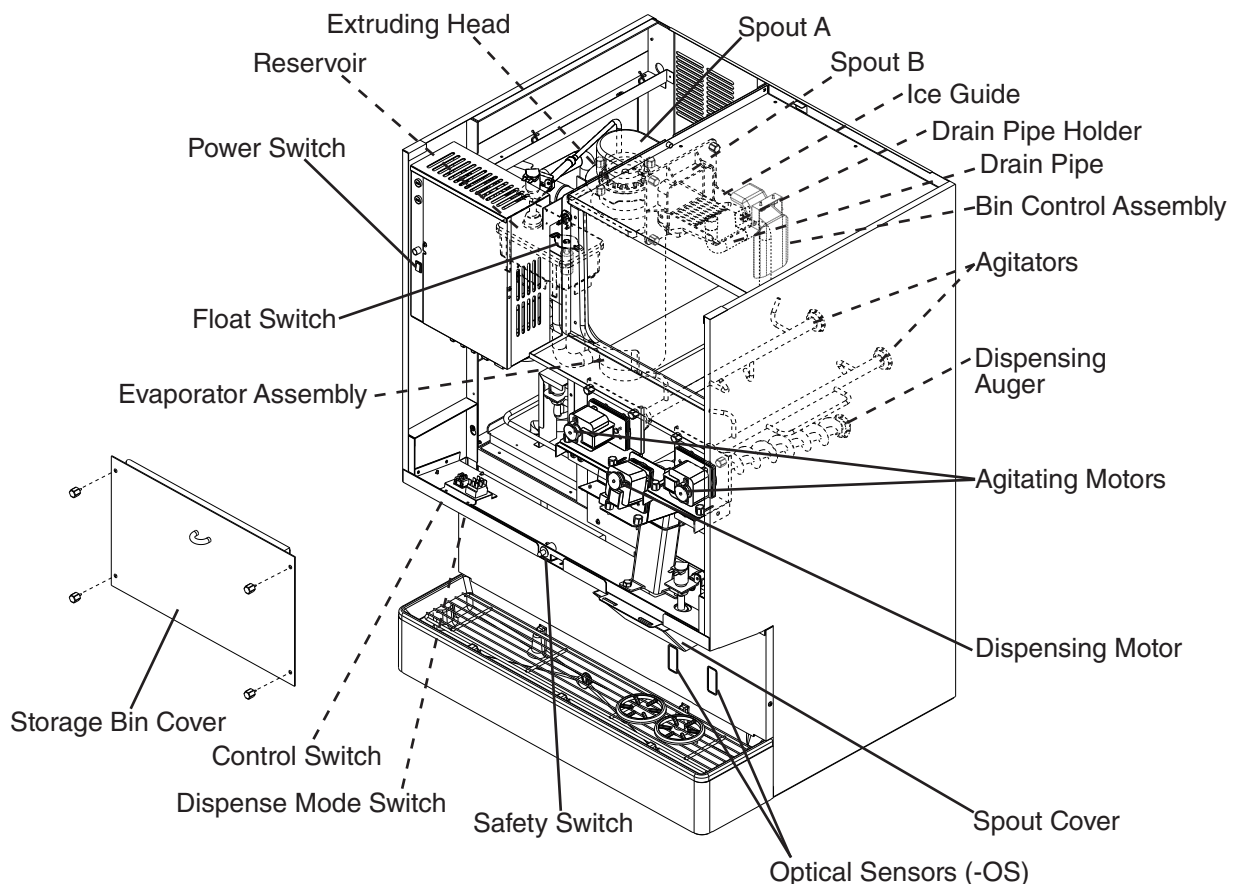

Fig. 9
- 5) Remove the storage bin cover. Remove spout B, then remove spout A. See Fig. 9.
- 9) In bad or severe water conditions, clean the float switch assembly as described below. See Fig. 9. Otherwise, continue to step 10.
- 4) Remove the motor bracket thumbscrews, first from the vertical plane and then from the horizontal plane. While holding on to the corresponding agitator or auger, move the agitating motor or the dispensing motor towards you. Remove the agitators and the dispensing auger from the storage bin. See Fig. 9.
- 8) Remove the spout cover, ice dispensing spout, and water dispensing nozzle. See Fig. 11. Also remove the ice guide, drain pipe holder, and drain pipe from the storage bin. See Fig. 9.